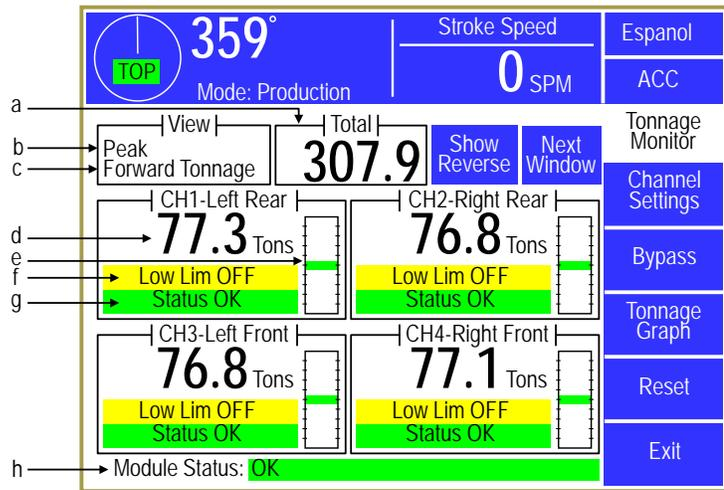
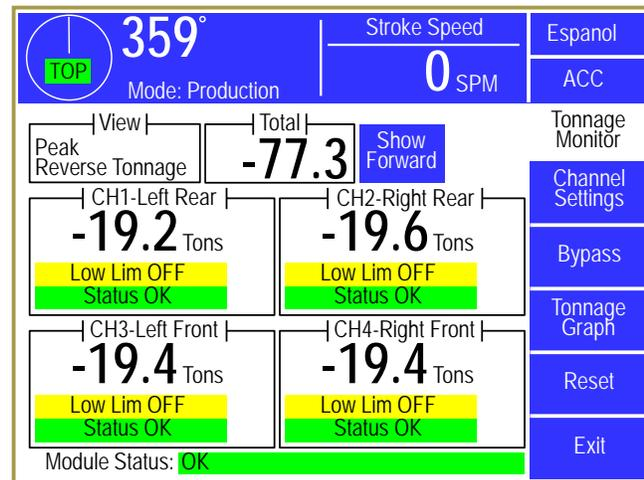

Figure 12: Tonnage Monitor Main Screen Showing Peak Forward Tonnage
Figure 13: Tonnage Monitor Main Screen Showing Reverse Tonnage
Peak forward tonnage and peak reverse tonnage can be selected for viewing. Figure 12 is an example of a peak forward tonnage view, and Figure 13 shows a peak reverse tonnage view. Two channel screens look much the same but have no channel three or channel four information sections.
In Figure 12, the various parts of the screen are:
- d) **Tonnage Reading** The numeric tonnage reading for this channel and view. In the example screen of Figure 12, this is the peak forward tonnage for channel 1.
- Show Reverse Softkey** This softkey changes the tonnages displayed to peak reverse tonnage (see Figure 13: Tonnage Monitor Main Screen Showing Reverse Tonnage). This key is only present when viewing peak forward tonnage. See section 3.3.1.2 on page 28 for more information.
Figure 13 shows a four channel screen when viewing reverse tonnages. Notice that there are no limit bars when viewing reverse tonnage as there is only one reverse limit for each channel. The **Show Reverse** softkey has also changed to **Show Forward** to allow switching back to the forward tonnage view.
A number of error conditions can be reported by the tonnage monitor. Some of these conditions are reported in the “Module Status” area (see “a” in Figure 12) and some are reported for a particular channel in the channel status area (see “b” in Figure 12).
The channel settings screen can be selected by pressing the **Channel Settings** softkey in the tonnage monitor main screen (See Figure 12 on page 26). It can also be selected by touching the screen inside any of the channel information boxes. In that case, the channel settings screen will automatically display the settings for that particular channel.